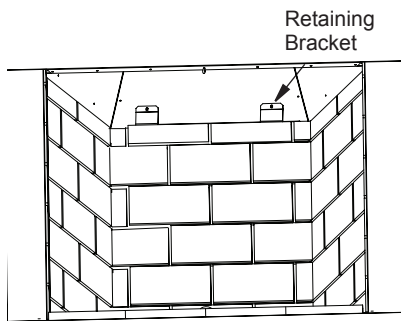

Figure 29 - Installing Rear Wall
7. Install the rear firebrick wall last. Place the wall face side down on the hearth with the bottom of the wall toward the rear of the firebox and the top toward the front of the fireplace. Tilt the wall up toward the back of the firebox. Secure with 2 rear retaining brackets provided (Figure 29).